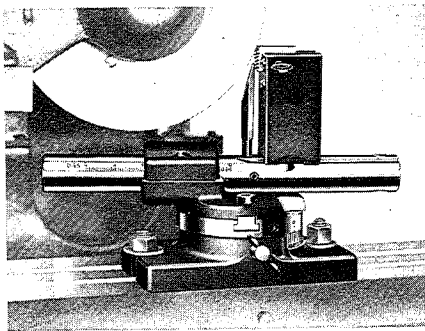
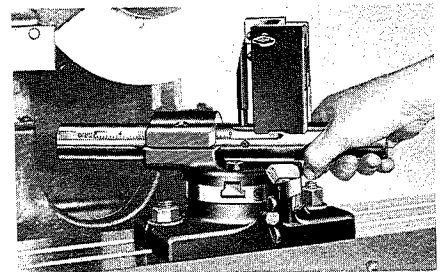
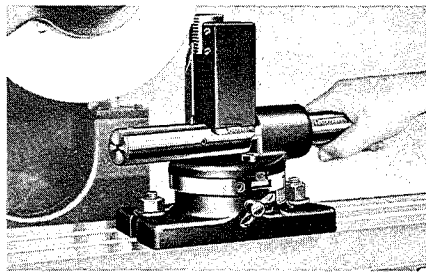

Figure 1
Figure 2
Figure 3
(5) The Swivel Plate should now be set to an angle (See B, Fig. 1) which will coincide with the original chamfer clearance angle of the Chaser, and locked in place by means of the Wing Screw (See C, Fig. 1). Be sure Offset Plate Locking Screws (See D, Fig. 1) are tight before any grinding is done. (No Offset Plate adjustment required for Milled, Ground and Super-metric Chasers.)
(6) Feed the Chaser forward carefully against the Grinding Wheel by means provided on the Machine and at the same time pass the Chaser back and forth across the periphery of the Wheel, grinding very lightly to see that the chamfer clearance is correct. A Stop on the Machine, or other suitable means, should be provided so that all Chasers of the set will be ground an equal amount.
(1) With the Radius Scale marked "Dies", the Base Scale "B" Fig. 1, and the Slide Bar Locking Screw all facing toward you insert the Slide Bar into fixture. (See Fig. 2.)
(3) Set the Slide Bar so that the reading on the Radius Scale marked "Dies" (A, Fig. 2) will equal as nearly as possible half of the minor (root) diameter of the thread. See page 69 for method of figuring minor diameter.
(4) Set the Slide Bar so that its center line (At "E" Fig. 2) is at zero and lock it tightly.
(5) Insert the Chaser with chamfer up in the Holder, bringing the threaded end against the Chaser Stop and lock in position by means of the Wing Screw in Chaser Holder. "D" Type Chasers should be located on the Key provided in the Chaser Holder. The Keys are reversed in the Holders when grinding 9/16" "K" Type Chasers and removed entirely for all larger sizes of "K" Chasers.
(6) To follow original grind as to chamfer, adjust the Machine until the contact between the periphery of Grinding Wheel and chamfer will produce the desired angle of chamfer. (See Fig. 2.)
(7) Loosen two Offset Plate Locking Screws (At "B" Fig. 2) and adjust Offset Plate by means of Adjusting Screws (See C, Fig. 2) to proper amount (use Scale at D, Fig. 2) to provide for proper clearance on chamfer. With the Slide Bar as shown in Fig. 2 the direction of offset should be away from you for Right Hand Chasers, and towards you for Left Hand Chasers. If figures are unavailable judge amount of offset by original clearance on Chasers being reground. Once having obtained correct chamfer clearance, lock Offset Plate in position by means of Offset Plate Locking Screws (See B, Fig. 2).
(8) Feed the Chasers forward carefully against the Grinding Wheel by means provided on the Machine and at the same time rock the Chaser back and forth across the periphery of the Wheel, grinding very lightly to see that the chamfer clearance is correct. A Stop, or other suitable means, should be provided on the Machine so that all Chasers of the set will be ground an equal amount. The width of the Wheel at the periphery must be thin enough so that it is suitable for the radius on the Chaser.
(1) Insert the Slide Bar with the Radius Scale marked "Taps" and Base Scale (B, Fig. 1) towards you and with the Slide Bar Locking Screw away from you. (See Fig. 3.)
(2) Clamp the suitable Chaser Holder in position as shown in Fig. 3, using the Inner Screw Hole in the Slide Bar with the head of Wing Screw in Holder away from you.
(3) The Chaser Stop is not used with Holders for "S" Chasers for 1" to 2" tap sizes inclusive, nor with Holder for 3/4" "SL" Chasers. Set the Chasers firmly
against the Angle Plate in the Holder. The Angle Plate must be set so the threaded portion of the Chaser is vertical and to the left. When using these Chaser Holders the reading on the Radius Scale marked "Taps" (See C, Fig. 3) should always be set at $\frac{1}{8}$ ". When this is done set the Slide Bar so that its center line is at zero and lock it tightly.
(5) To follow the original grind as to chamfer adjust the Machine until the contact between the periphery of the Grinding Wheel and chamfer will produce the desired angle. (See Fig. 3.)
(6) Loosen two Offset Plate Locking Screws (At B, Fig. 3) and adjust Offset Plate (use Scale—See D, Fig. 2) by means of Adjusting Screws (one shown at D, Fig. 3) so that original chamfer clearance may be maintained. With Slide Bar parallel to the Wheel as shown in Fig. 3 the direction of offset should be away from you for Right Hand Chasers and towards you for Left Hand Chasers. If figures are unavailable, judge amount of offset by original clearance on Chasers being reground. Once having obtained correct chamfer clearance, lock Offset Plate in place by means of Offset Plate Locking Screws (See B, Fig. 3).
(7) Feed the Chaser forward carefully against the Grinding Wheel by means provided on the Machine and at the same time rock the Chaser back and forth across the periphery of the Wheel, grinding very lightly to see that the chamfer clearance is correct. A Stop, or other suitable means, should be provided on the Machine so that all Chasers of the set will be ground an equal amount.